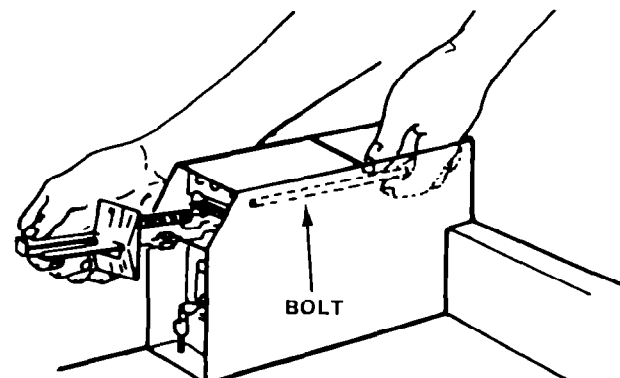

FIGURE 2
- Secure the coin slide mechanism with the  $\frac{3}{16}$ " bolt (supplied in the parts bag) from inside the meter case (See Figure 2).